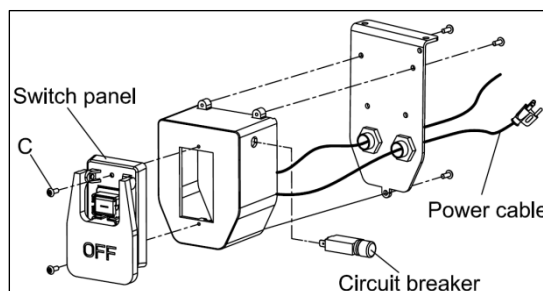

Fig. 22
b. As shown in **Fig. 22**, unscrew the screws (C) and replace the switch panel with the new one that is used for 230V, then tighten the screws.